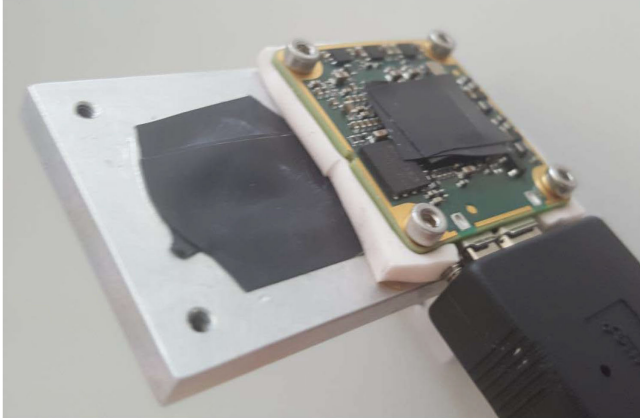

Figure 3: Mounted dart USB Camera Module with Heat Conduction Mat (Lab Test Setup, Sensor Covered)
- Bare board variants:** The metallic borders of the holes are designed to dissipate heat to connecting metallic components (see Figure 3).